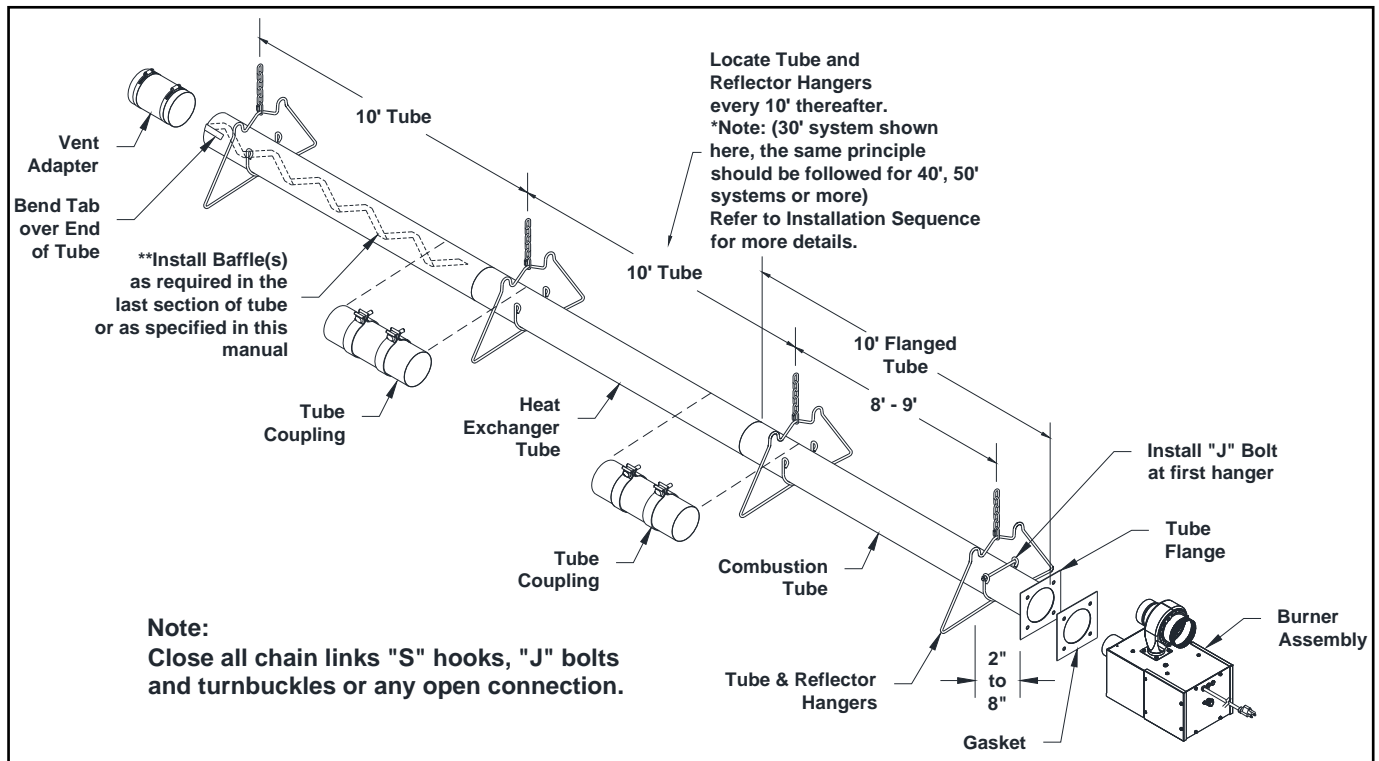

Figure 12: Overall view of Tubes and Reflector Hangers
- A general overall view of the tubes and reflector hangers are shown in Figure 12 below